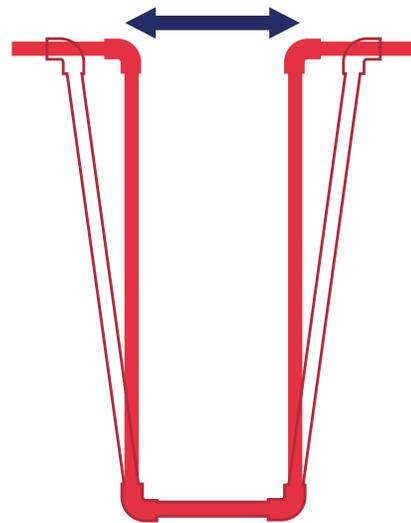

Figure 10. Thermal expansion / contraction joint
2. Given that the ABS material contracts about 6 cm (2.36 in) for every 100 m (328 ft) for a temperature differential of 10°C (50°F), we recommend using a thermal expansion joint or flexible tube at least every 25 meters (82 ft) of pipe, which will be placed in a horizontal position, to absorb the expansion and contraction of the plastic (Figure 10).